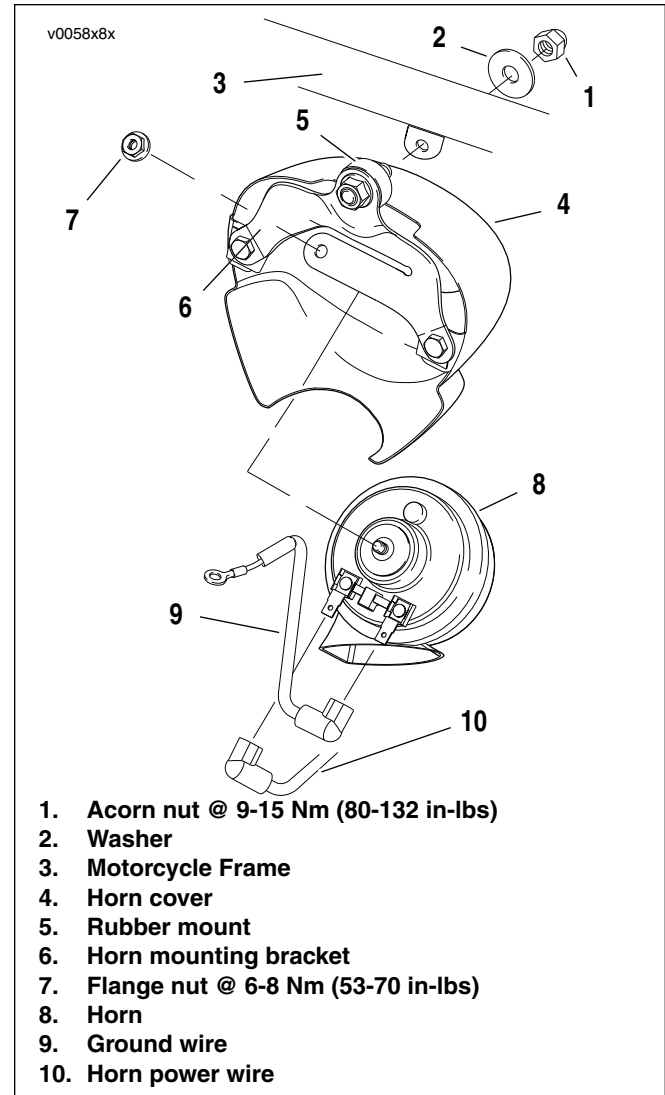

Figure 8-68. Horn (typical)
1. See Figure 8-68. Remove acorn nut (1) and washer (2) and detach horn assembly from motorcycle.
2. Remove ground wire (9) and horn power wire (10) from posts on back side of horn (8).
3. Remove nut (7) securing horn to mounting bracket (6).
6. See Figure 8-68. Attach horn assembly to motorcycle using washer (2) and acorn nut (1). Tighten to 9-15 Nm (80-132 in-lbs).